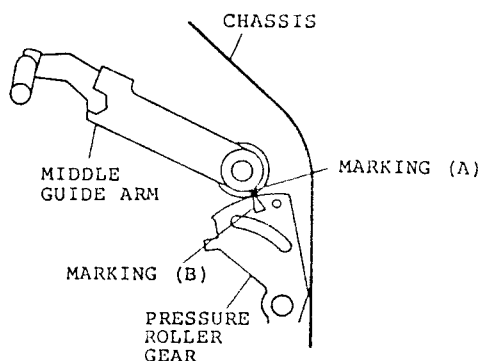

Fig. 3-7
4. MIDDLE GUIDE ARM ASSEMBLING PHASE MATCHING (Fig. 3-7)